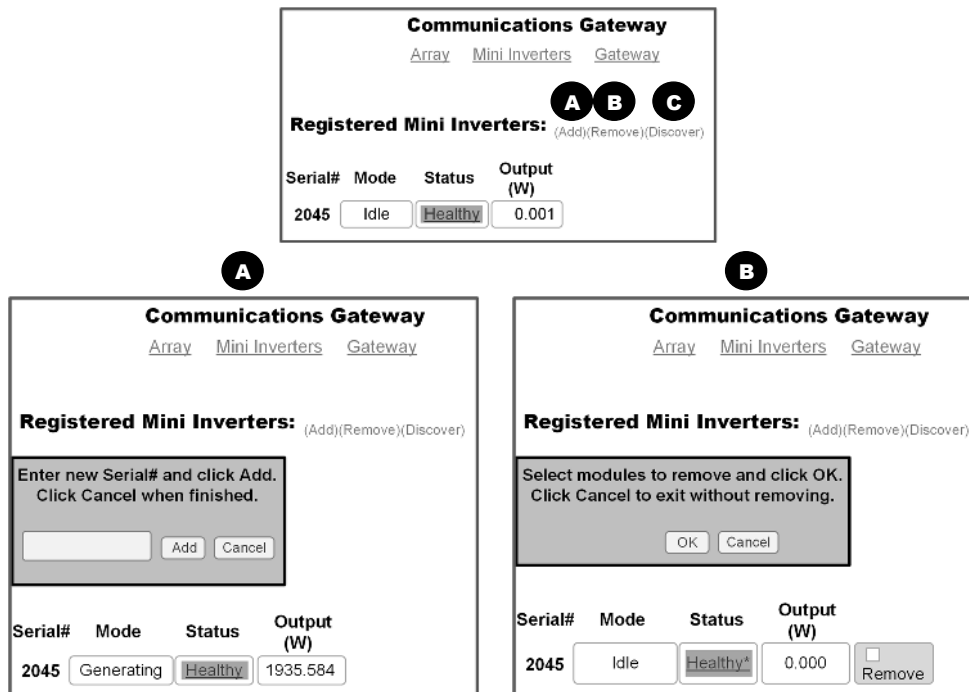

Figure 23: Adding and removing inverters manually using the web interface
Automatic discovery of inverters may also be achieved from the web interface as noted in Figure 23(c).
Manual registration is accomplished using either the touch screen or the web interface. Figure 23 depicts the web interface. (This functionality is found under the top level of the **Mini Inverters** tab.) Manual registration gives the ability to add (A) and delete (B) inverters as desired. It is particularly useful if an inverter is replaced on a site where automatic discovery would take a long time.